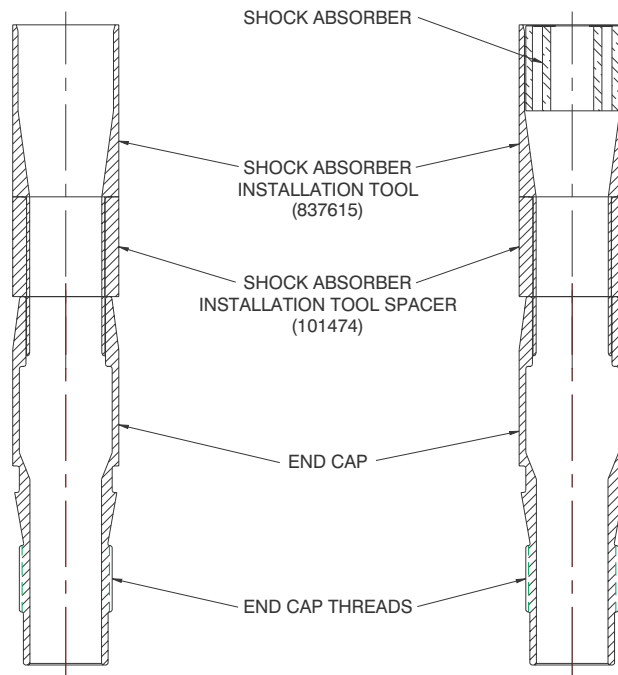

Figure 9-8. End Cap, Spacer 101474, and Tool 837615 in Press
3. Position the End Cap (16) in an arbor press with the threaded end down, as shown in Figure 9-8-A.
4. Insert the assembled Spacer, 101474, and Shock Absorber Installation Tool, 837615, into the End Cap as shown in Figure 9-8-A.
5. Lubricate the OD of the Shock Absorber (15) and The I.D. of the Shock Absorber Installation Tool, 837615. Place the Shock Absorber into tool P/N 837615 as shown in Figure 9-8-B.